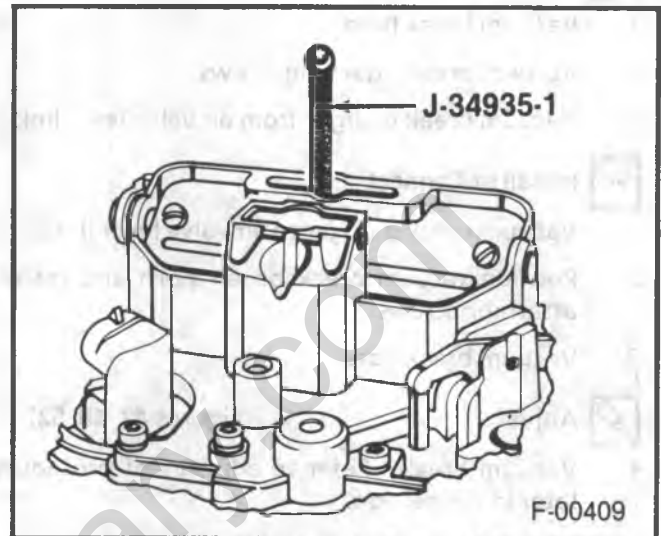

Figure 33 – Float Level - External Check
FLOAT LEVEL - EXTERNAL CHECK (Figure 33)
1. With the engine idling and the choke valve wide open, insert J 34935-1 or BT- 8420A in the vent slot (figure 33).